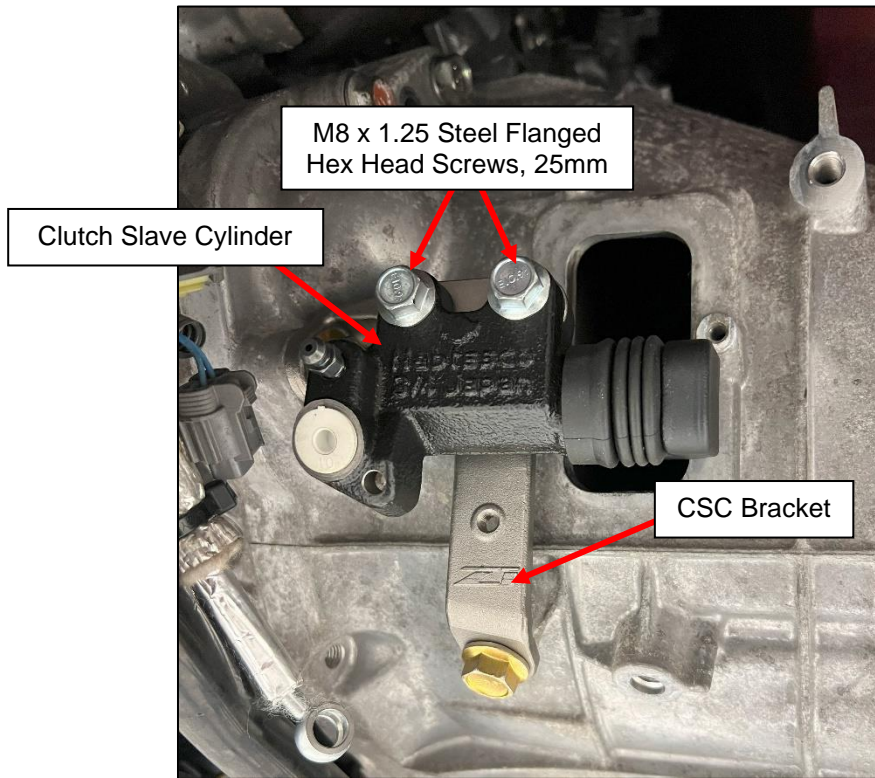

Figure 22
44. Locate the Clutch Slave Cylinder (CSC) and (2) two M8 x 1.25 Steel Flanged Hex Head Screws, 25mm Long. Position the CSC onto the CSC Bracket, as shown below in *Figure 22* and install the (2) two M8 x 1.5 Screws. Torque the M8 x 1.25 screws to 18 ft-lbs.